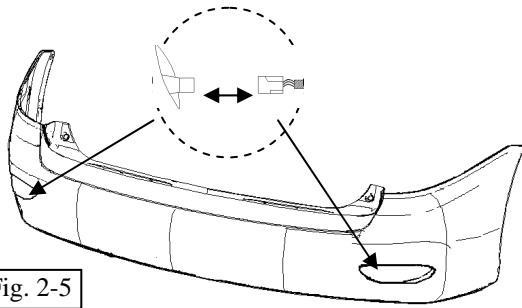

Fig. 2-5
- (g) With lower panels removed, access fascia lamps and disconnect vehicle side connector RH/LH. (Fig. 2-5)
- (1) Re-connect lamps. (Fig. 2-5)